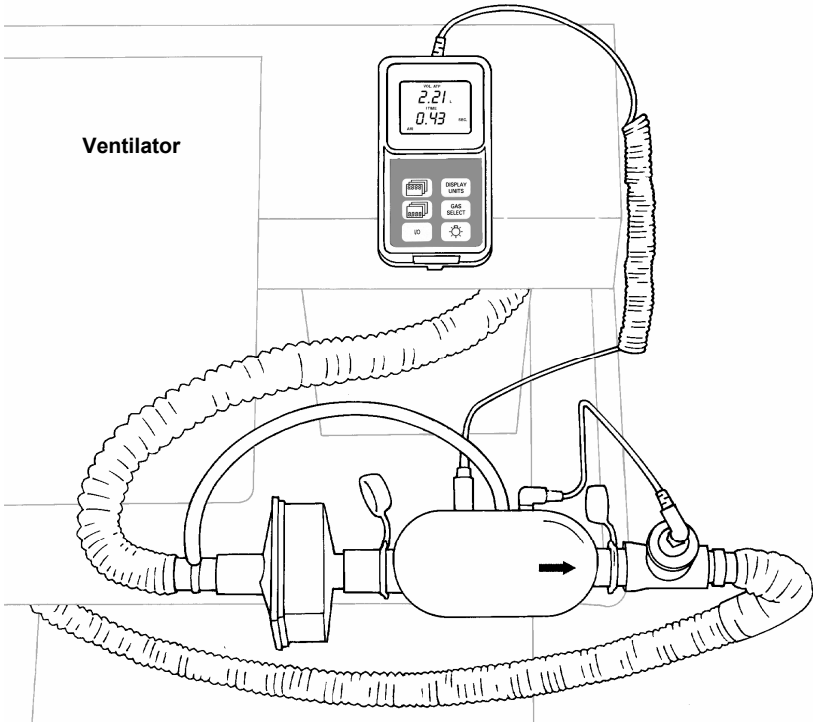
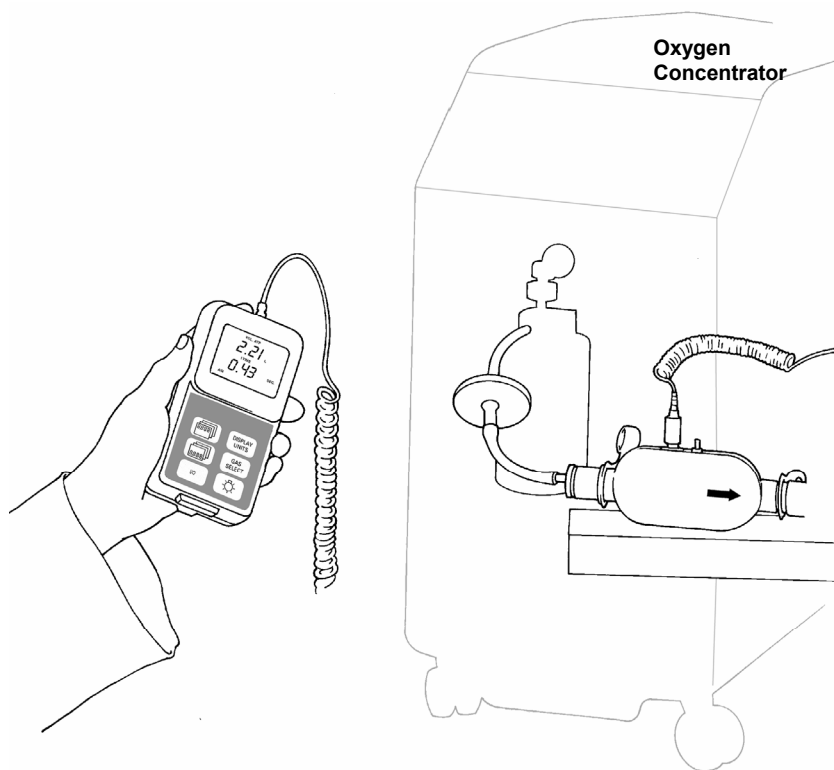

Figure 7. Installing a Flow Module into the Test Circuit
Figure 8. Certifier[®] FA Test System Installed in an Oxygen Concentrator Circuit
5. Install the flow module into the test circuit (**Figure 7, Figure 8**).